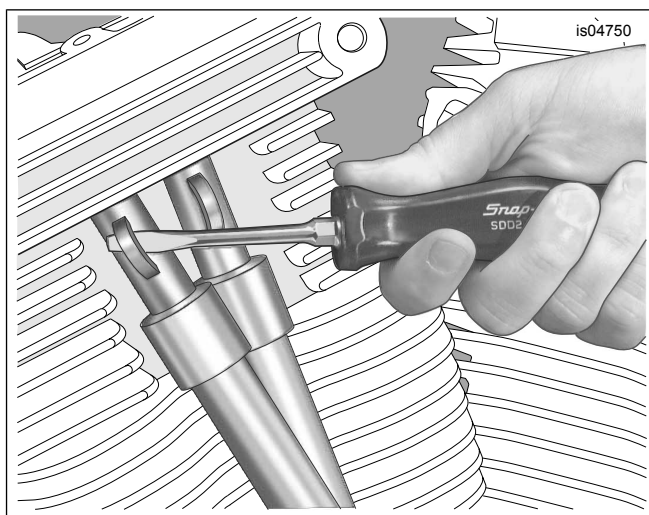

Figure 3. Remove Spring Cap Retainer
2. Remove the rocker cover (2) and gasket (3). Discard the gasket.
3. See Figure 3. Insert the blade of a small screwdriver into the cast loop of the spring cap retainer (19) for the upper push rod cover (20). While pushing down on the spring cap, rotate the bottom of the screwdriver toward the outboard side to remove. Repeat for the second cover retainer.